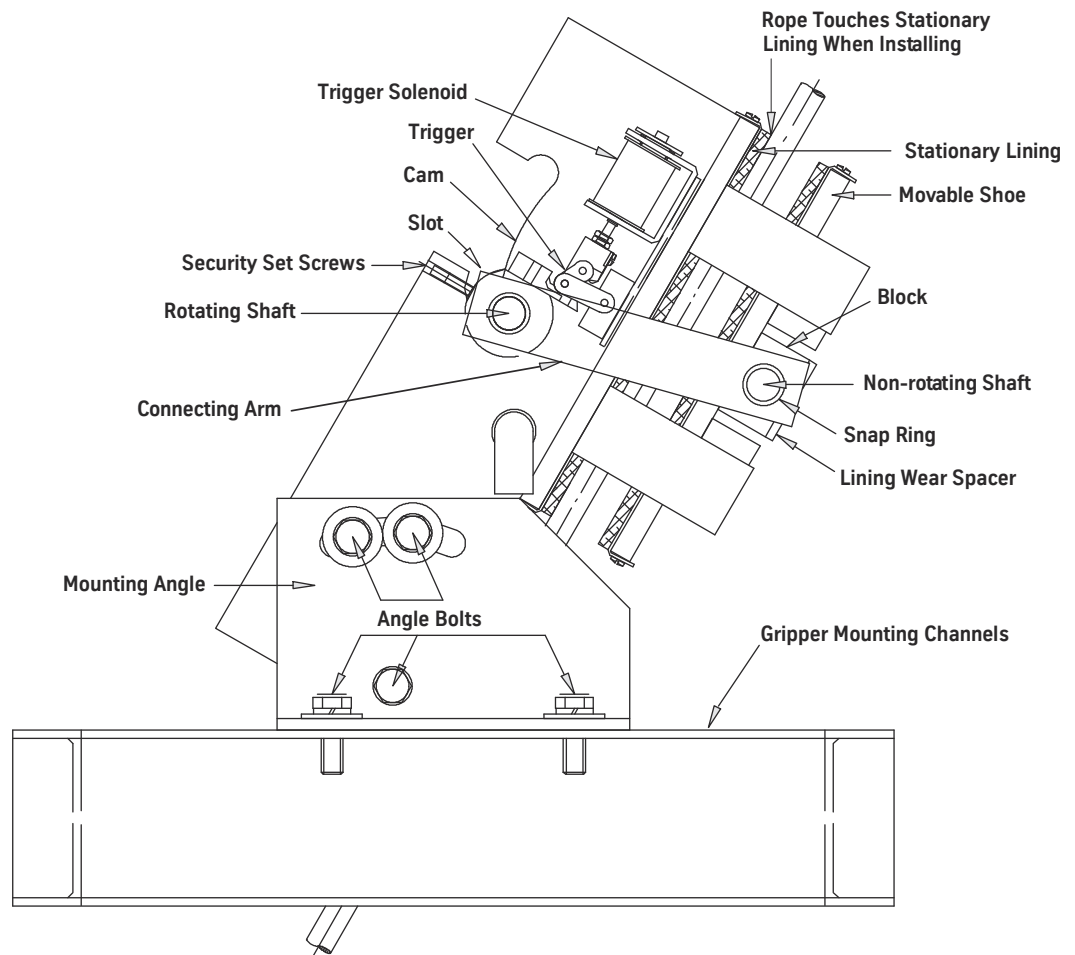

Figure 1 - Rope Gripper Detailed Illustration
1. Be sure the security set screws are touching and holding the rotating shaft in the loaded position. See Figure 1.